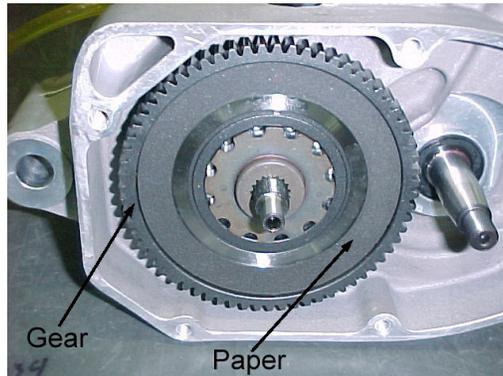

Figure 5. Nut, washer, CFD spring washer, & outer pressure plate removed.
7. Remove CFD gear, two pressure plates, and two friction papers (Figure 5).